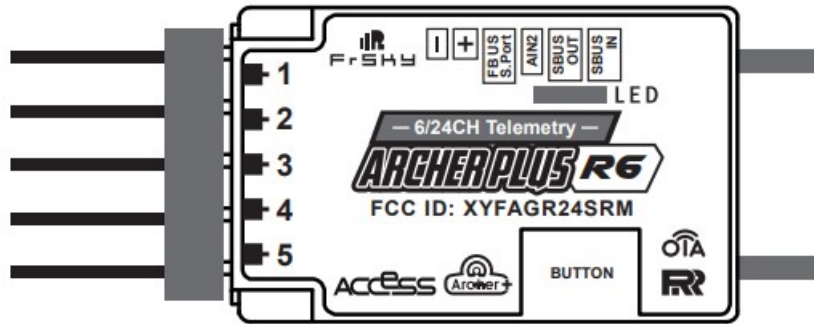

Figure 40: Archer Plus R6
- ii. On the Archer Plus R6, hold down the receiver button while powering up the Archer Plus R6. (Figure 40)